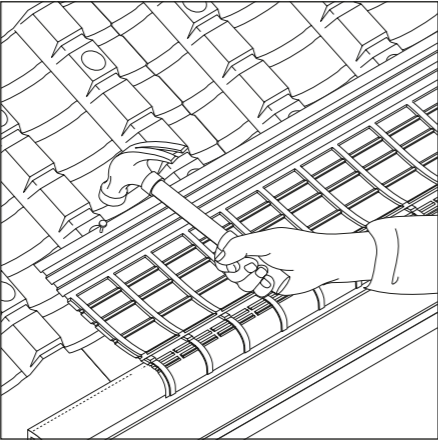

Fig 3
- 5 Place felt support trays over the over fascia vent strips and nail to rafters, using 45mm x 3.35mm (10mm OFV) or 60mm x 3.35mm (25mm OFV) nails. (Fig 3).